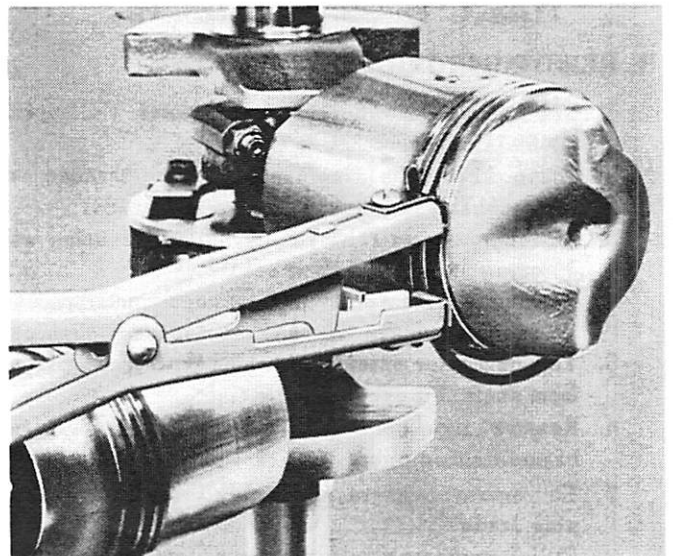

Figure 7. Removing (and Installing) Piston Rings
3. Remove piston rings from pistons with Piston Ring Expander (91-24697). (Figure 7)
10. Replace piston rings on pistons with Piston Ring Expander (91-24697), spreading rings over end of piston and seating properly in grooves. (Figure 7)